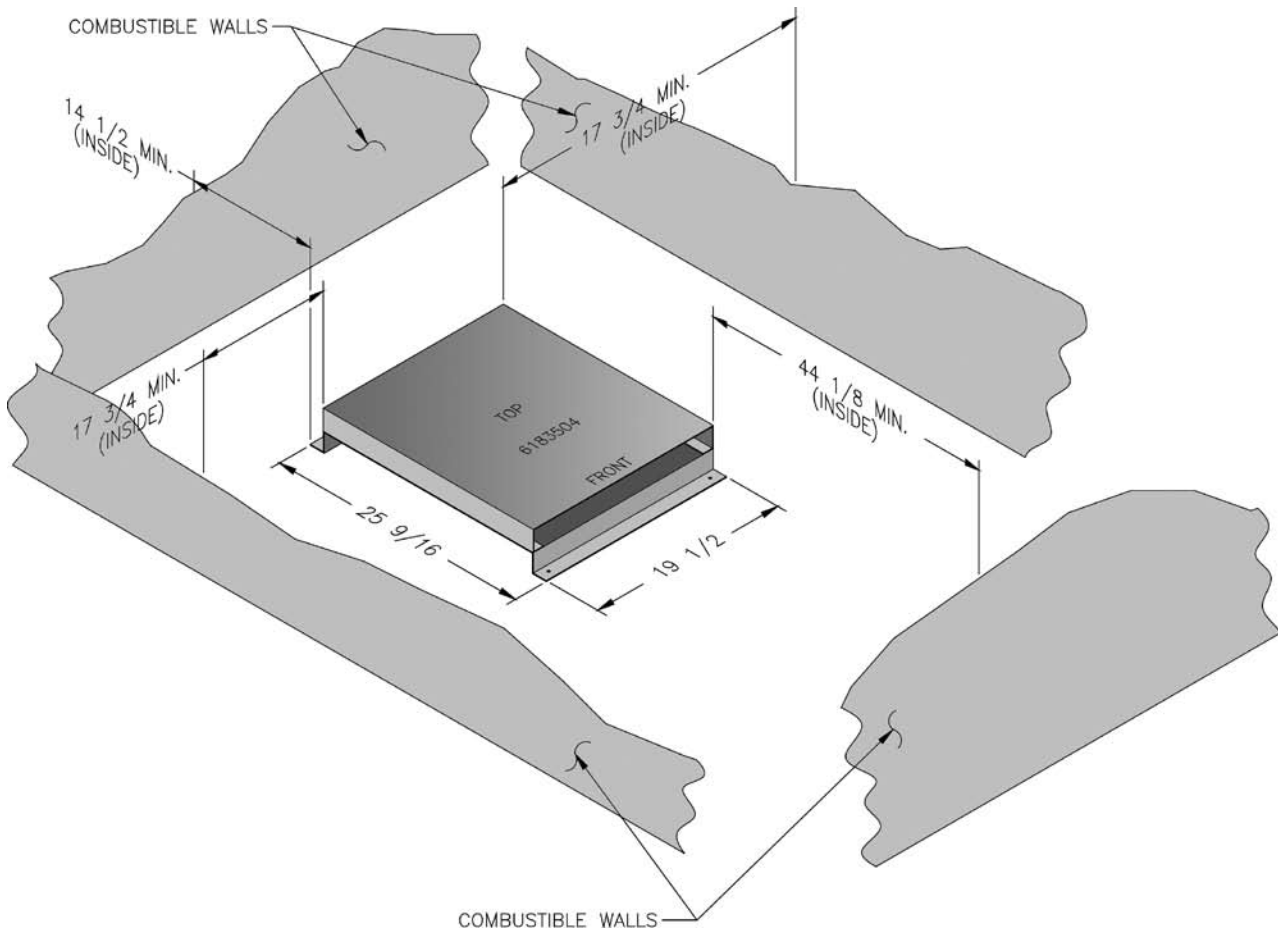

Figure 3: Floor Shield
DO NOT install on carpeting. See Figure 3 for floor shield part number and installation instructions.
- 2) Locate shield such that clearances to combustible walls are as indicated in Figure 3. These dimensions will assure that the boiler jacket will be at least 18" from the side and rear walls and 48" from the front wall, as required by ANSI/NFPA 31.